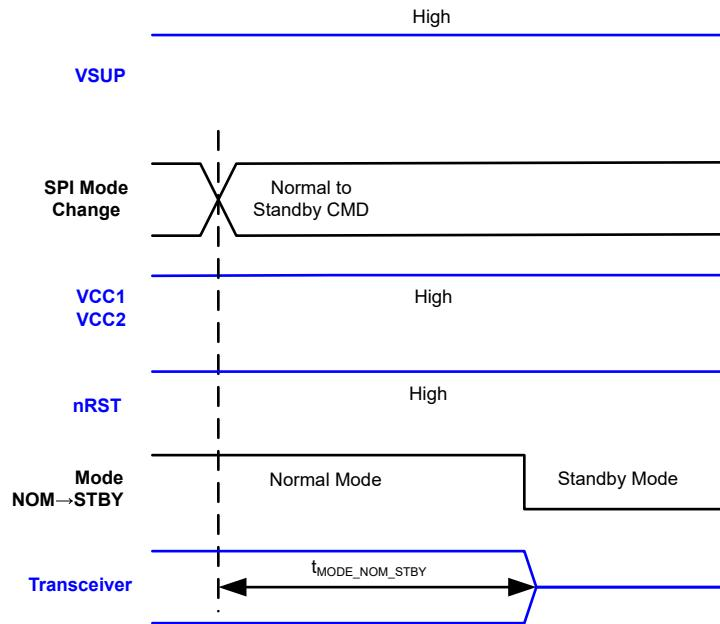

Figure 7-16. Normal to Standby Timing
- The blue signals are input or output of the TCAN241x-Q1 and the black signals are internal to the TCAN241x-Q1. This is for the timing diagrams Figure 7-13, Figure 7-14, Figure 7-15, Figure 7-16.